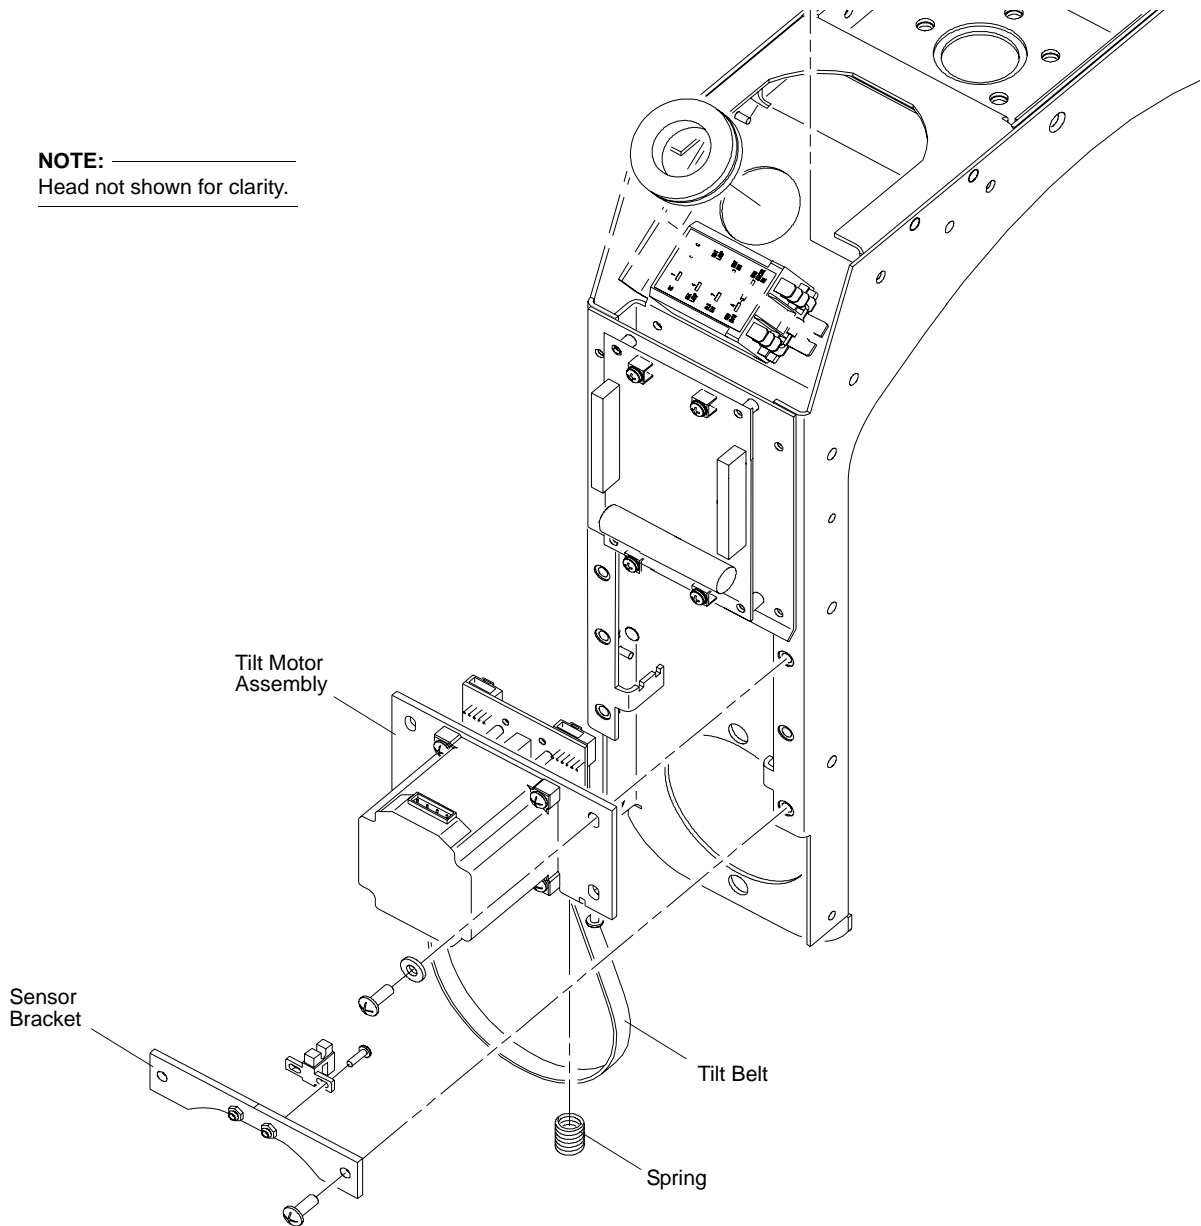

Figure 2-18: Tilt Motor Assembly Replacement
Step 3. Referring to Figure 2-18 on page 41, remove two 10-32 x 1/2" PPZ screws and remove tilt sensor bracket. Disconnect wiring from encoder.
Step 4. Referring to Figure 2-18 on page 41, remove tilt belt.